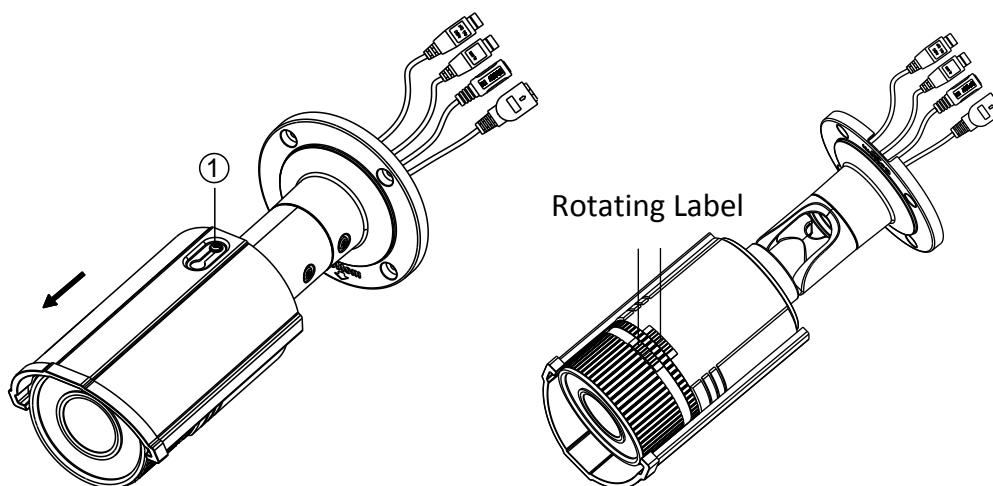

Figure 4-27 Assemble the Camera
6. Slide the sun shield according to the arrow direction as shown in Figure 4-27(left).
For water-proof, please align the rotating label on the front cover with that on the camera when you rotate the front cover clockwise. Refer to Figure 4-27 (right).